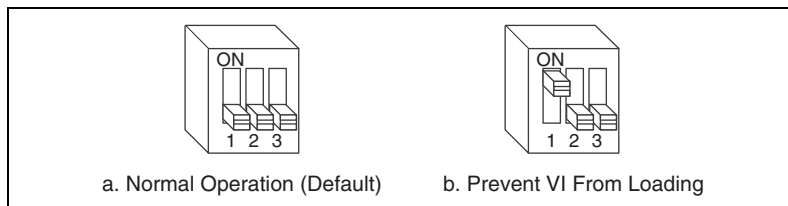

Figure 2-11. Switch Settings on Switch SW1
Refer to Figure 2-2 for the location of switch SW1. For normal operation, switch 1 is in the OFF position. To prevent a VI stored in flash memory from loading to the FPGA upon power up, you can move switch 1 to the ON position, as shown in Figure 2-11.
3. Move switch 1 to the ON position, as shown in Figure 2-11.